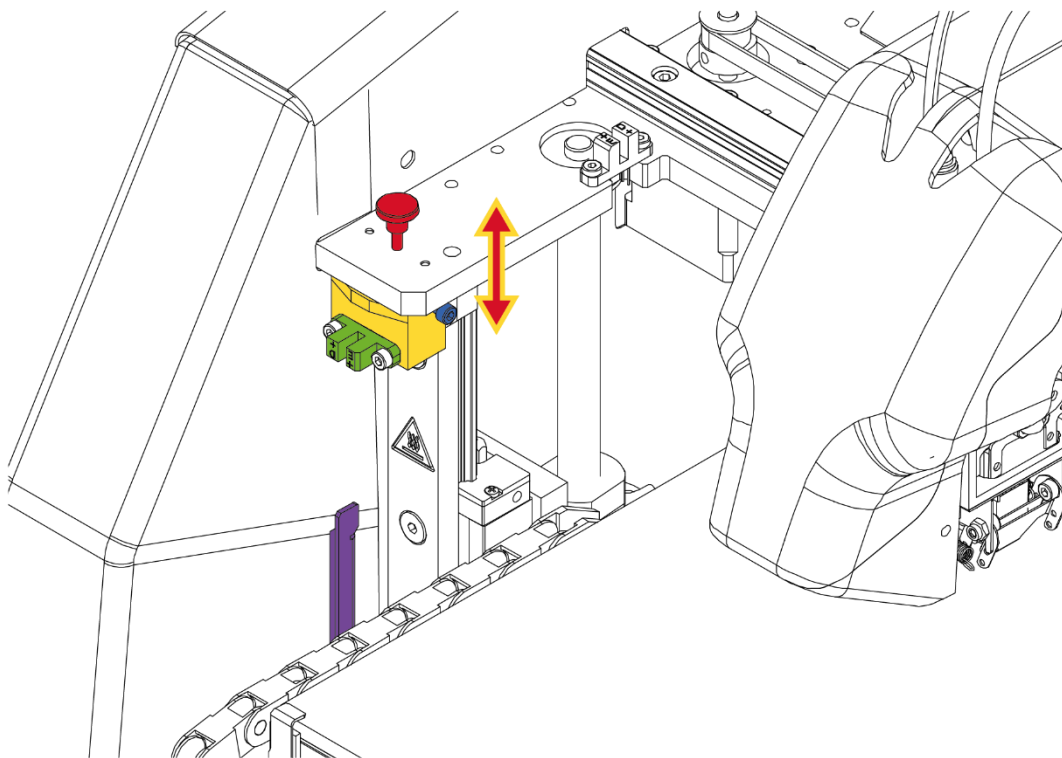

Fig. 37 Manual adjustment of the distance between the heatbed and T0 nozzle tip
ATTENTION: observe carefully the movement of all axes. When the Z axis breaker (fig. 37, violet colour) reaches the level of the Z axis endstop (fig. 37, green colour) and stops, check the distance between T0 nozzle and the heatbed using a feeler gauge. The distance should be about 0.8 - 1.5 mm. If the distance is larger, the heatbed scanning may be aborted and the "Heatbed scan aborted" error message may be displayed.
- b) Loosen the clamp bolt (fig. 37, blue colour) locking the slide (fig. 37, yellow colour).
- c) Adjust the distance by means of the thumbscrew (fig. 37, red colour). Tighten the thumbscrew to lower the slide and increase the distance between the nozzle and the heatbed. Unscrew the thumbscrew to rise the slide and bring the nozzle closer to the heatbed (fig. 37 red-yellow arrow).